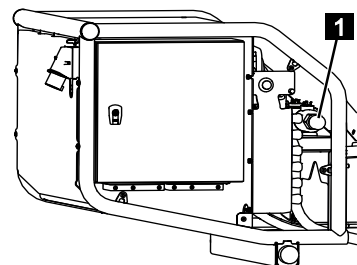

Fig. 187
3. Push in the valve (Fig.187/1) and lock it by turning it clockwise.